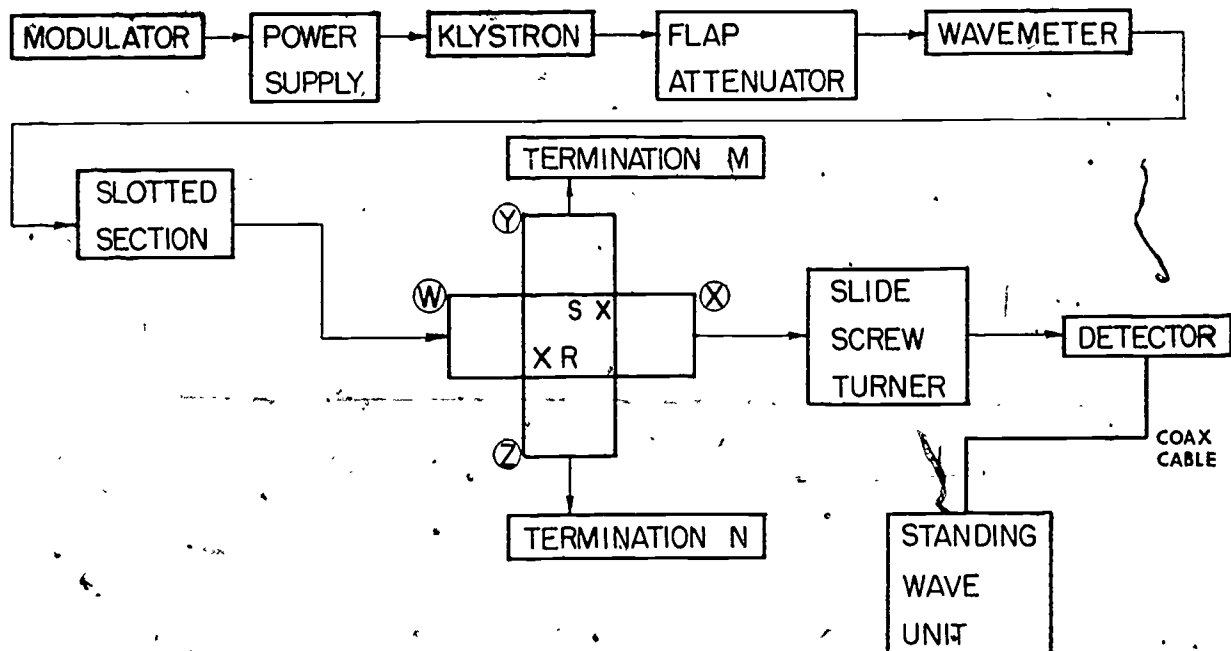

Fig. 3--Connections for Directional Coupler Measurements
1. Connect microwave training components as in Fig. 3. (The two x's, marked R and S, inside the coupler are internal slots.)